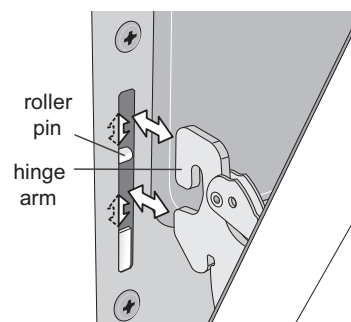

Figure 81: Oven hinge and roller pin
2. Holding the oven door at the same angle as the removal position, carefully line up and insert both door hinge arms between the pins located on each side of the oven door frame (Figure 81).